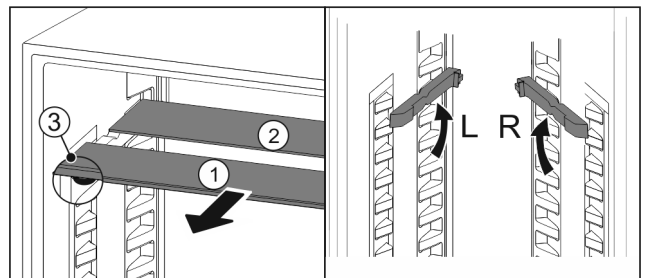

Fig. 30
- ▶ Pull the glass panels out Fig. 30 (1) from the front, one at a time.
- ▷ The glass panel Fig. 30 (1) and trim strip are at the front.
- ▷ The stops Fig. 30 (3) point down.